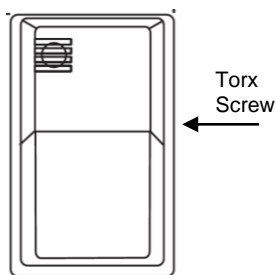

Figure 1
2. Remove the 2 Torx screws (1 on each side) that hold the front plastic housing to the back and remove the front housing. (See figure 1)